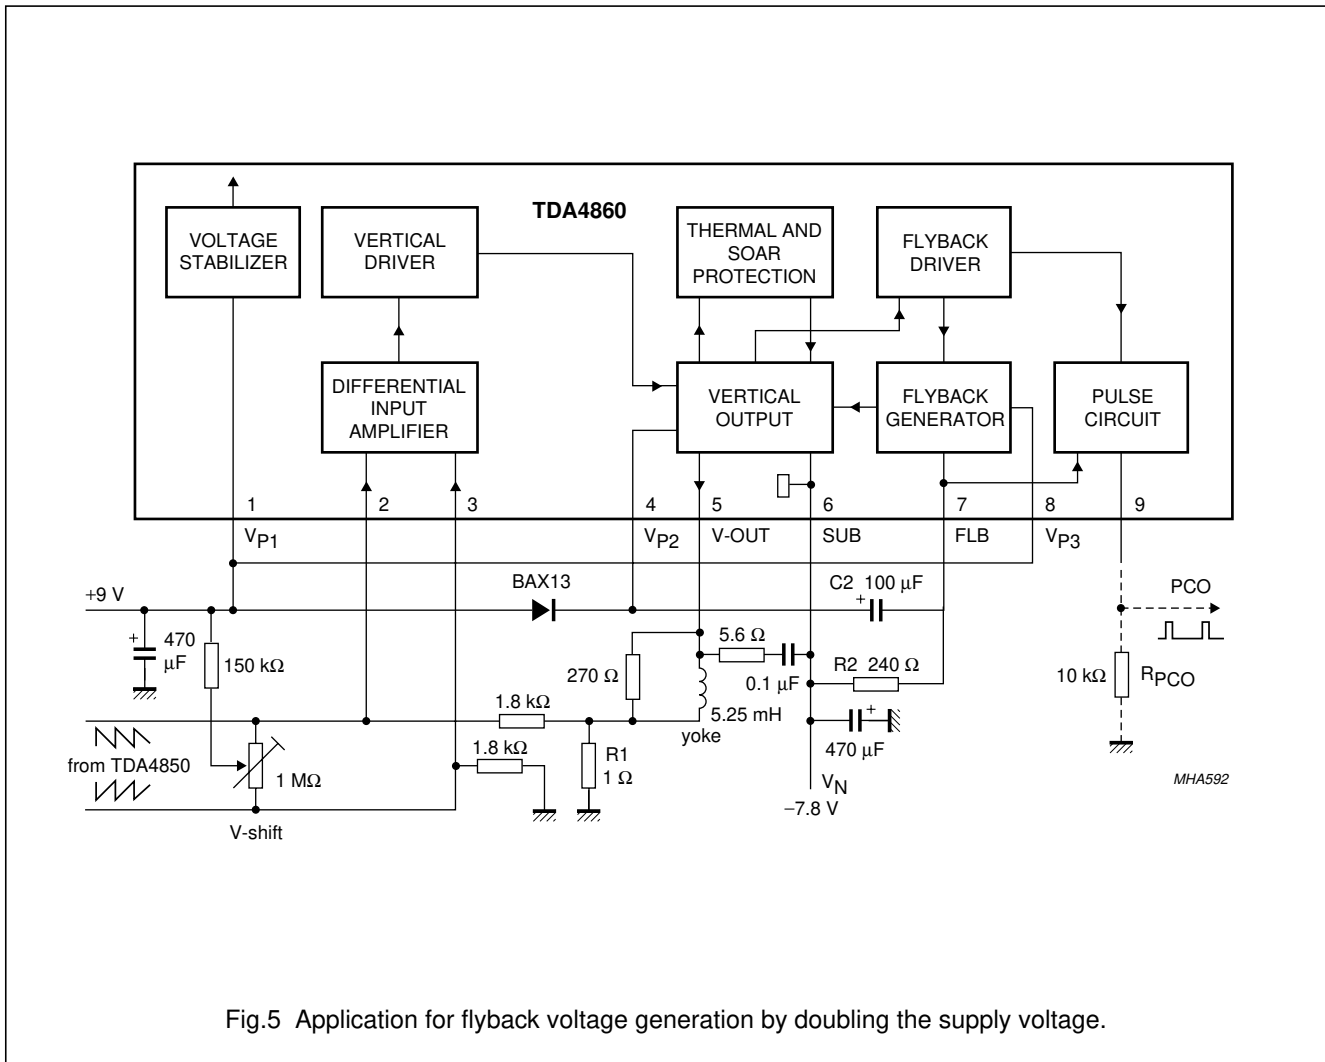

Fig.5 Application for flyback voltage generation by doubling the supply voltage.
2. The flyback voltage is generated by doubling the supply voltage (see Fig.5). The 100 μ F capacitor C2 between pins 4 and 7 is charged up to V_{P1} during scan, using the external diode and the resistor R2. The cathode of the capacitor C2 is connected to the positive rail during flyback. Thus, the flyback voltage is twice the supply voltage.